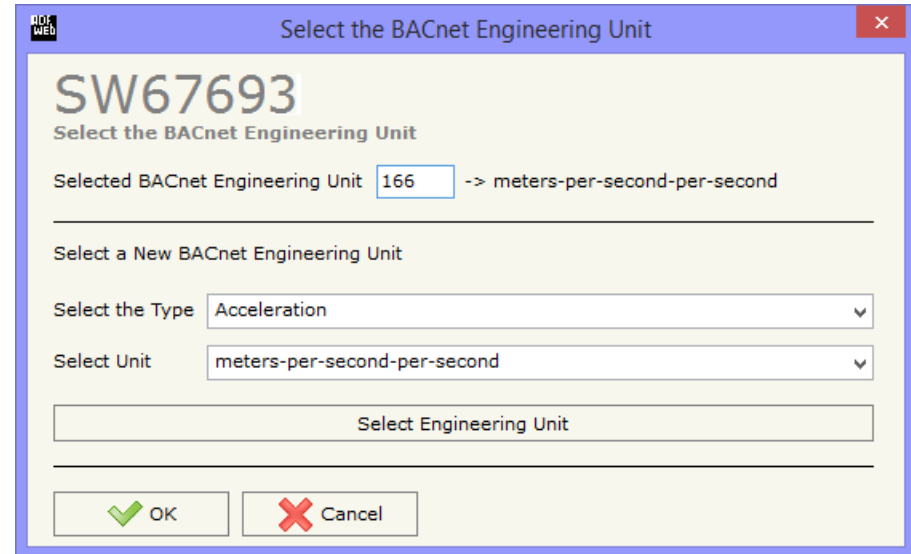

Figure 5: "Select the BACnet Engineering Unit" window
- In the field “**Eng. Unit**”, with double click the window “*Select the BACnet Engineering Unit*” appears (Fig. 5);